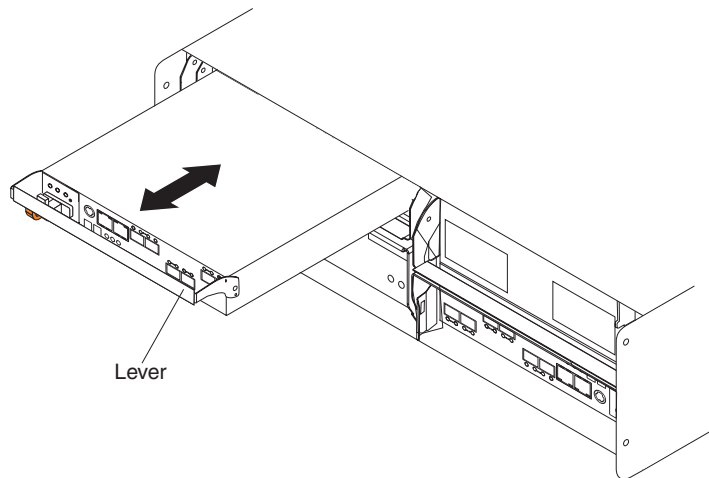

Figure 16. Removing and replacing a controller
2. Slowly pull the lever away from the chassis to remove the controller from the bay, as shown in Figure 16 on page 38.